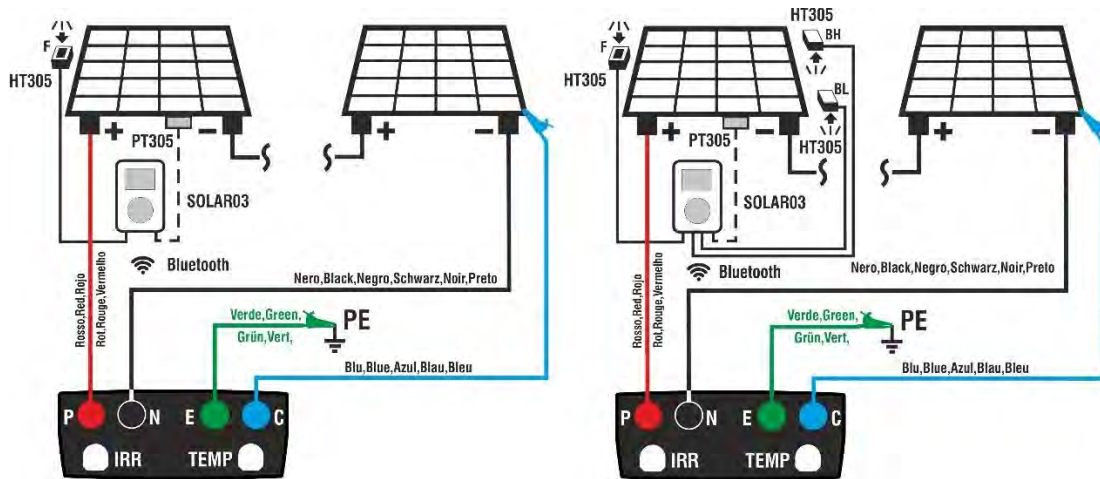

Fig. 13: Connection of SOLAR03 in direct connection on Mono/Bifacial PV modules
3. Connect the instrument to the PV module/string being tested and to the main earth node of the system, and to the metal masses connected to earth as shown in Fig. 13. In detail:
- **In case of Bifacial modules** → position the **3 reference cells HT305** respectively onto the front surface of module (**F**), onto the back top part (**BH=BackHigh**) and onto the back bottom part (**BL=BackLow**) of the module. Connect the front reference cell (F) to input “**INP1**”, BH reference cell to input “**INP2**”, BL reference cell to input “**INP3**” and **possibly** the temperature probe **PT305** to input “**INP4**” of the remote unit. In accordance with the IEC/EN60904-1-2 standard, the instrument calculates the equivalent front-side Irradiance (**Irr_{eq}**) value, which corresponds to the Irradiance on the front surface only, which produces the same effects as the Irradiance measured on both sides, considering the **bifaciality factor** (φ) of the module according to the following relationship: